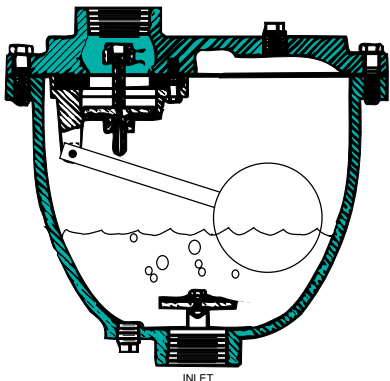

Figure 3. Accumulated Air Continuously Released
2. As air accumulates in the piping system and enters the valve, the float drops and the orifice button breaks contact with the plug stem. Accumulated air will vent through the plug stem. As the air is vented, the float raises once again and closes the plug stem orifice. See Figure 3.